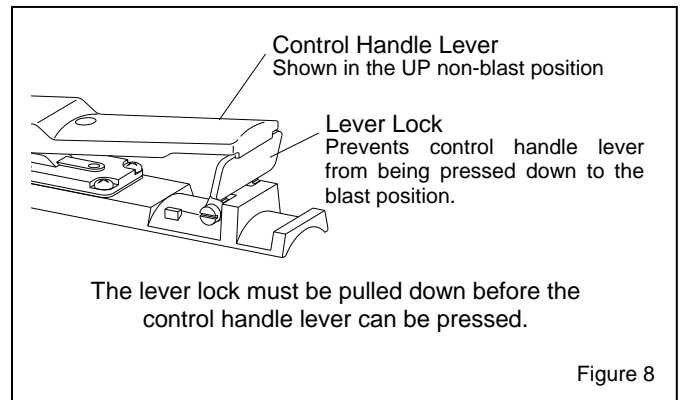

Figure 8
**3.2.10** Make sure that the remote control handle lever is in the up (no blast) position, as shown in Figure 8, and that the handle lever and safety lock move freely.